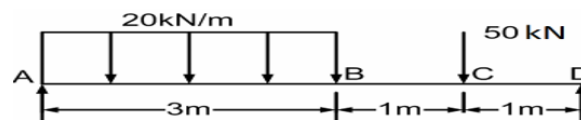

Figure 1
- (b) Draw the shear force and bending moment diagram for the beam shown in Figure. 1 [7M]